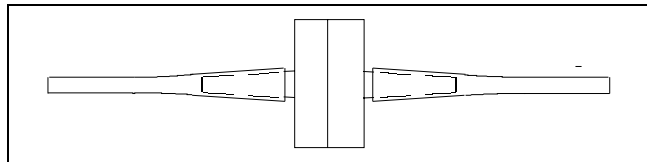

FIGURE 5-7 Replacement Filter
2. The new filter is shipped with a pair of barb fittings in place. Remove these fittings and discard them. The assembly should then look resemble FIGURE 5-7.